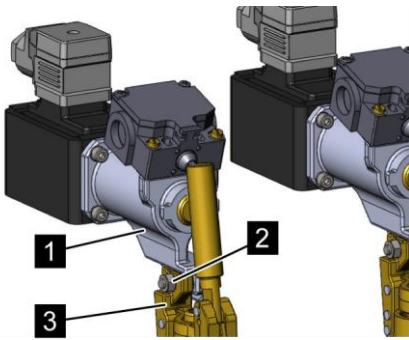

Fig. 110: Mounting the EM release device
8. ➤ First loosely fasten the holder (Fig. 110/1) of the EM release device with the included hex bolt (Fig. 110/2), hex nut and washer on the base (Fig. 110/3). Mount the washer in front of the slot hole of the EM release device.
11. ➤ Tighten the hex nut (Fig. 110/2).